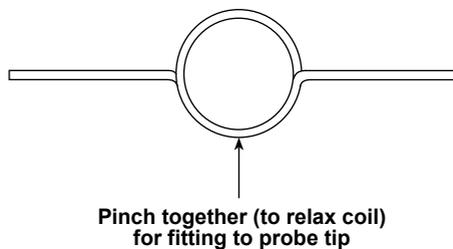

Fig. 13
2. Remove probe (if installed) and fit a pair of checking wires to the end of the probe tip, 90° relative to each other and a maximum 10 mm ( $\frac{3}{8}$ ") from the tip end - see Figures 13 and 14.